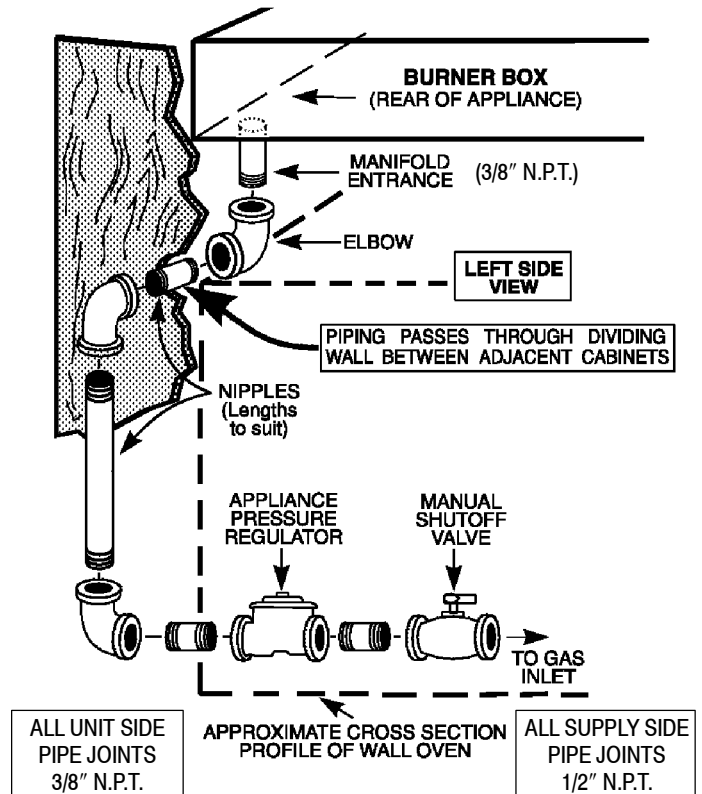

FIGURE 4
**Note, regarding Figure 4, above:**
- For convenience in service a union (not shown: locally available) should be included in the piping illustrated in figure 4, in a location most practical for the installation. Generally, a practical location is in the cabinet below this appliance, near the manifold entrance, rather than in an adjoining cabinet.
If the outlet is to be mounted in either a left or right adjacent cabinet, a clearance hole, as described above, must be provided in the dividing wall between the cabinets. Figure 4; page 5, illustrates a typical (left side) dividing wall. The clearance hole (not shown in figure 4)